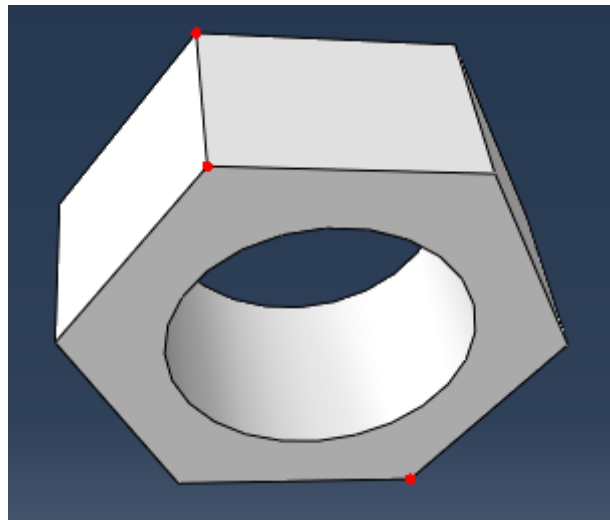

Figure L1-13. Selection of 3 points for partitioning the nut.
8. Click on **3 Points** in the prompt area, and select the end points of any outer edge of the bolt that is parallel to the bolt axis, and any one endpoint of the diagonally opposite edge as shown in Figure L1-13. Click **Create Partition** in the prompt area.